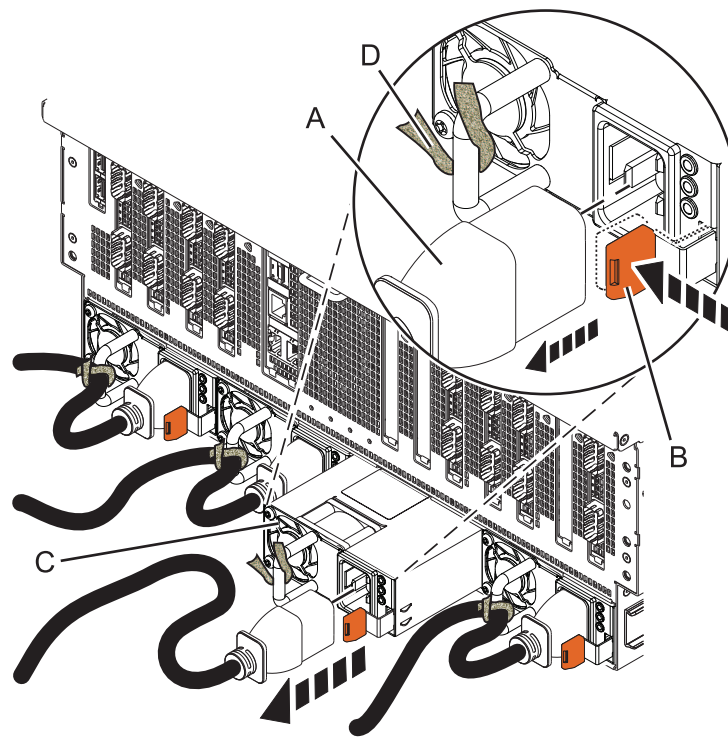
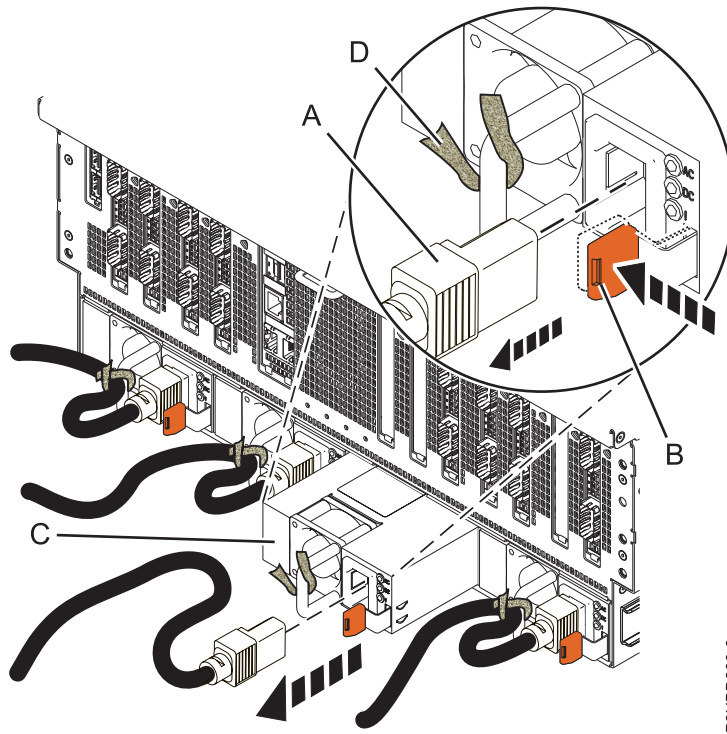

Figure 3. Removing a power supply from the 8408-44E system
Figure 4. Removing a power supply from the 8408-E8E system
- a. Label the power cord, and then unstrap the hook-and-loop fastener to release the power cord from the power supply handle. Refer to (D) in Figure 3 (8408-44E) or Figure 4 on page 6 (8408-E8E).
- b. Pull the end of the power cord (A) out of the power supply (C) in the direction that is shown in Figure 3 (8408-44E) or Figure 4 on page 6 (8408-E8E).
3. To unseat the power supply from its position in the system, push the terracotta locking-tab (B) in the direction shown in Figure 3 on page 5 (8408-44E) or Figure 4 (8408-E8E).
4. Pull the power supply (C) away from the system, as shown in Figure 3 on page 5 (8408-44E) or Figure 4 (8408-E8E).